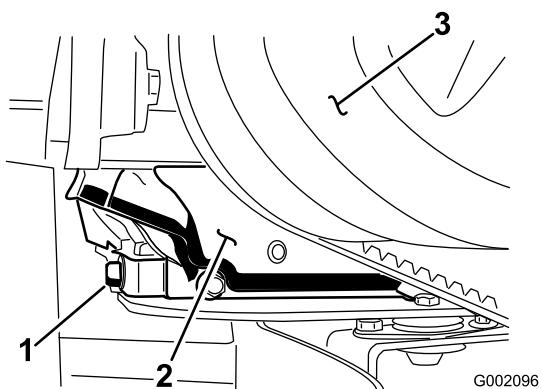

Figure 30
- Remove the drain plug (Figure 30).